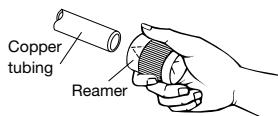

Figure 12
2. Hold each pipe downward when cutting and remove burrs at the end of the copper tube with a tube reamer or file. This process is important and should be done carefully to make a good flare (Figure 12 and Figure 13).
2. Remove burrs at the end of the copper tube with a tube reamer (Figure 12).